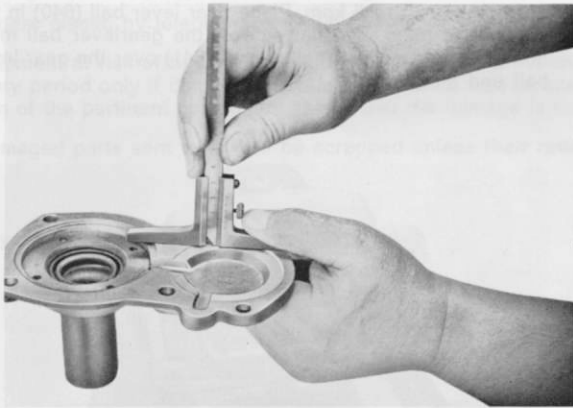

Fig. 62
5. Determine the depth of the appropriate bore in the withdrawal bearing carrier (Fig. 62). The difference between the 2 measurements gives the thickness of the spacer (302), which must be placed in the bore of the withdrawal bearing carrier. The shims are available in thicknesses of 0,4; 0,5; 0,6; 0,7; 0,75; 0,8; 0,85; 0,9; 0,95; 1,0; 1,05; 1,1; 1,15; 1,2; 1,25; 1,3; 1,4 and 1,5. The installed taper roller bearing must have between 0 and 0,05 mm pre-load.